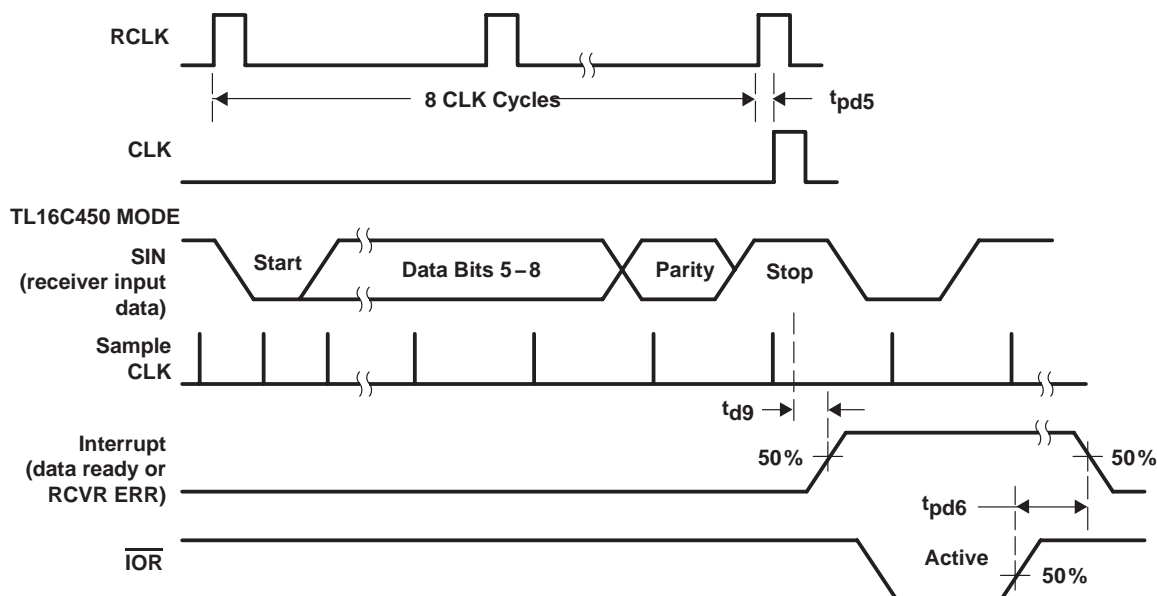

Figure 9. Receiver Timing Waveforms
**receiver switching characteristics over recommended ranges of operating free-air temperature and supply voltage (see Figures 9, 10, 11, 12 and 13)**